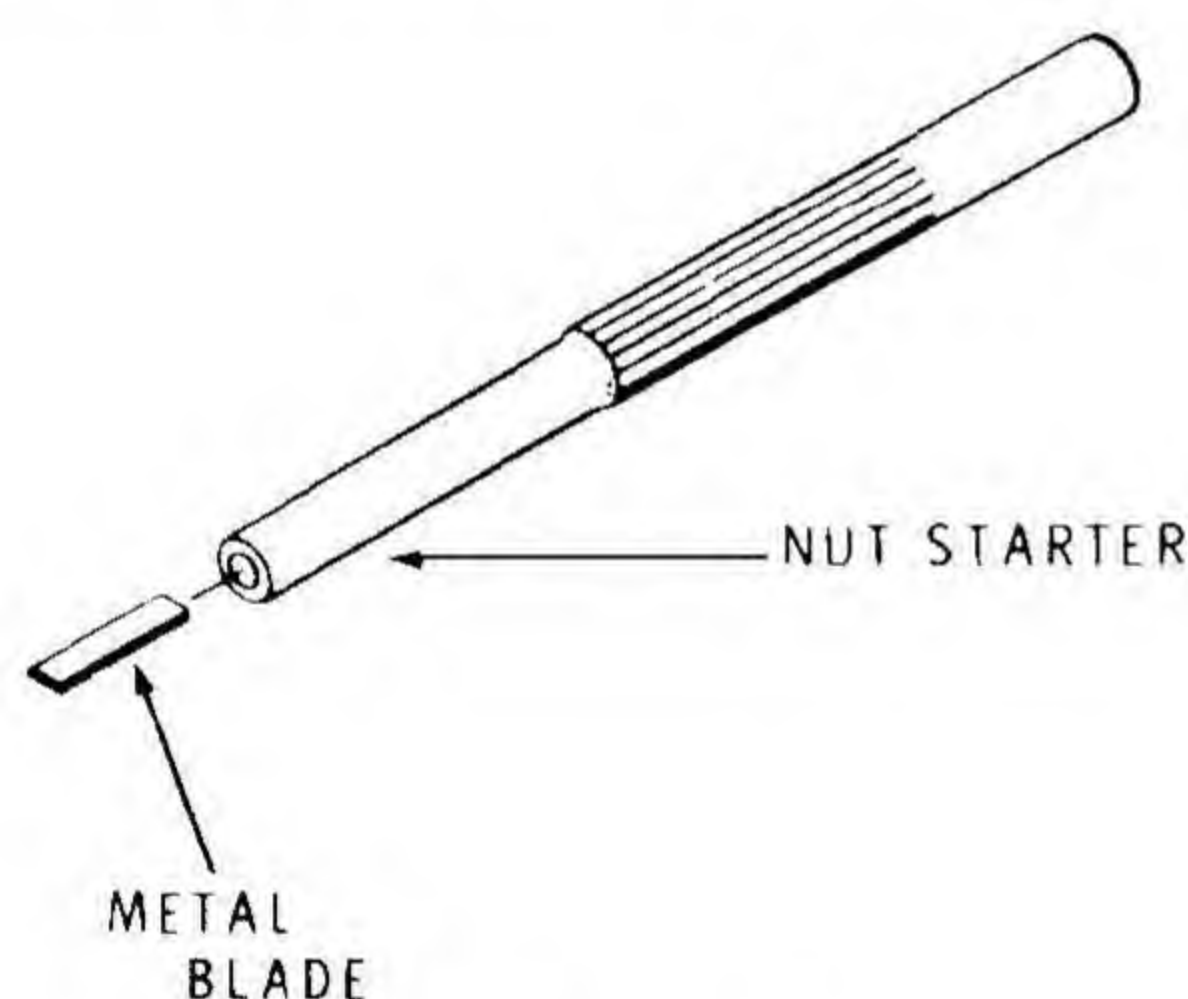

Figure 1
- () Prepare an alignment tool in the following manner: Insert the 1/8" x 3/4" alignment tool blade into the small end of the nut starter as shown in Figure 1. Leave 1/4" of the blade exposed.